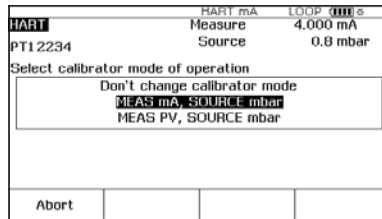

Figure 6.
2. Press the key again and you are prompted to select the 754 configuration (Figure 6). Selecting **MEAS mA, SOURCE mbar** will configure the calibrator to measure the analog mA output and the pressure being applied simultaneously to the transmitter input and the pressure module. (Selecting **MEAS PV, SOURCE mbar** will configure the 754 to evaluate the digital PV output from the transmitter.) Press to select.